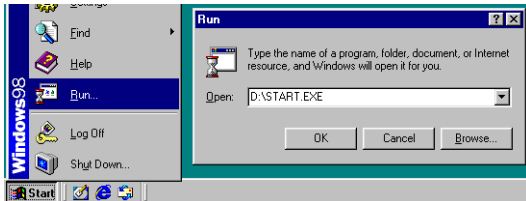

Figure 2: Starting the installation
3. Click on 'Start' and select 'Run' (Figure 2).